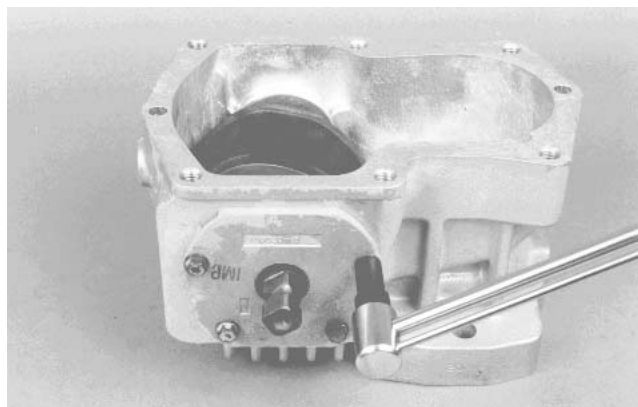

Figure 58
6. Install hex tapping screws and tighten to a torque of 6 to 9 ft.-lb (8 to 12 N-m) (Fig. 58).